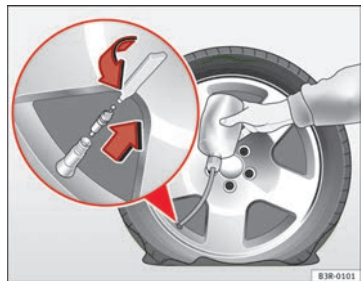

Fig. 202 Repairing a tyre
- Take the valve cap off the tyre valve and use the enclosed valve insert tool to unscrew the valve insert ⇒ Fig. 202.